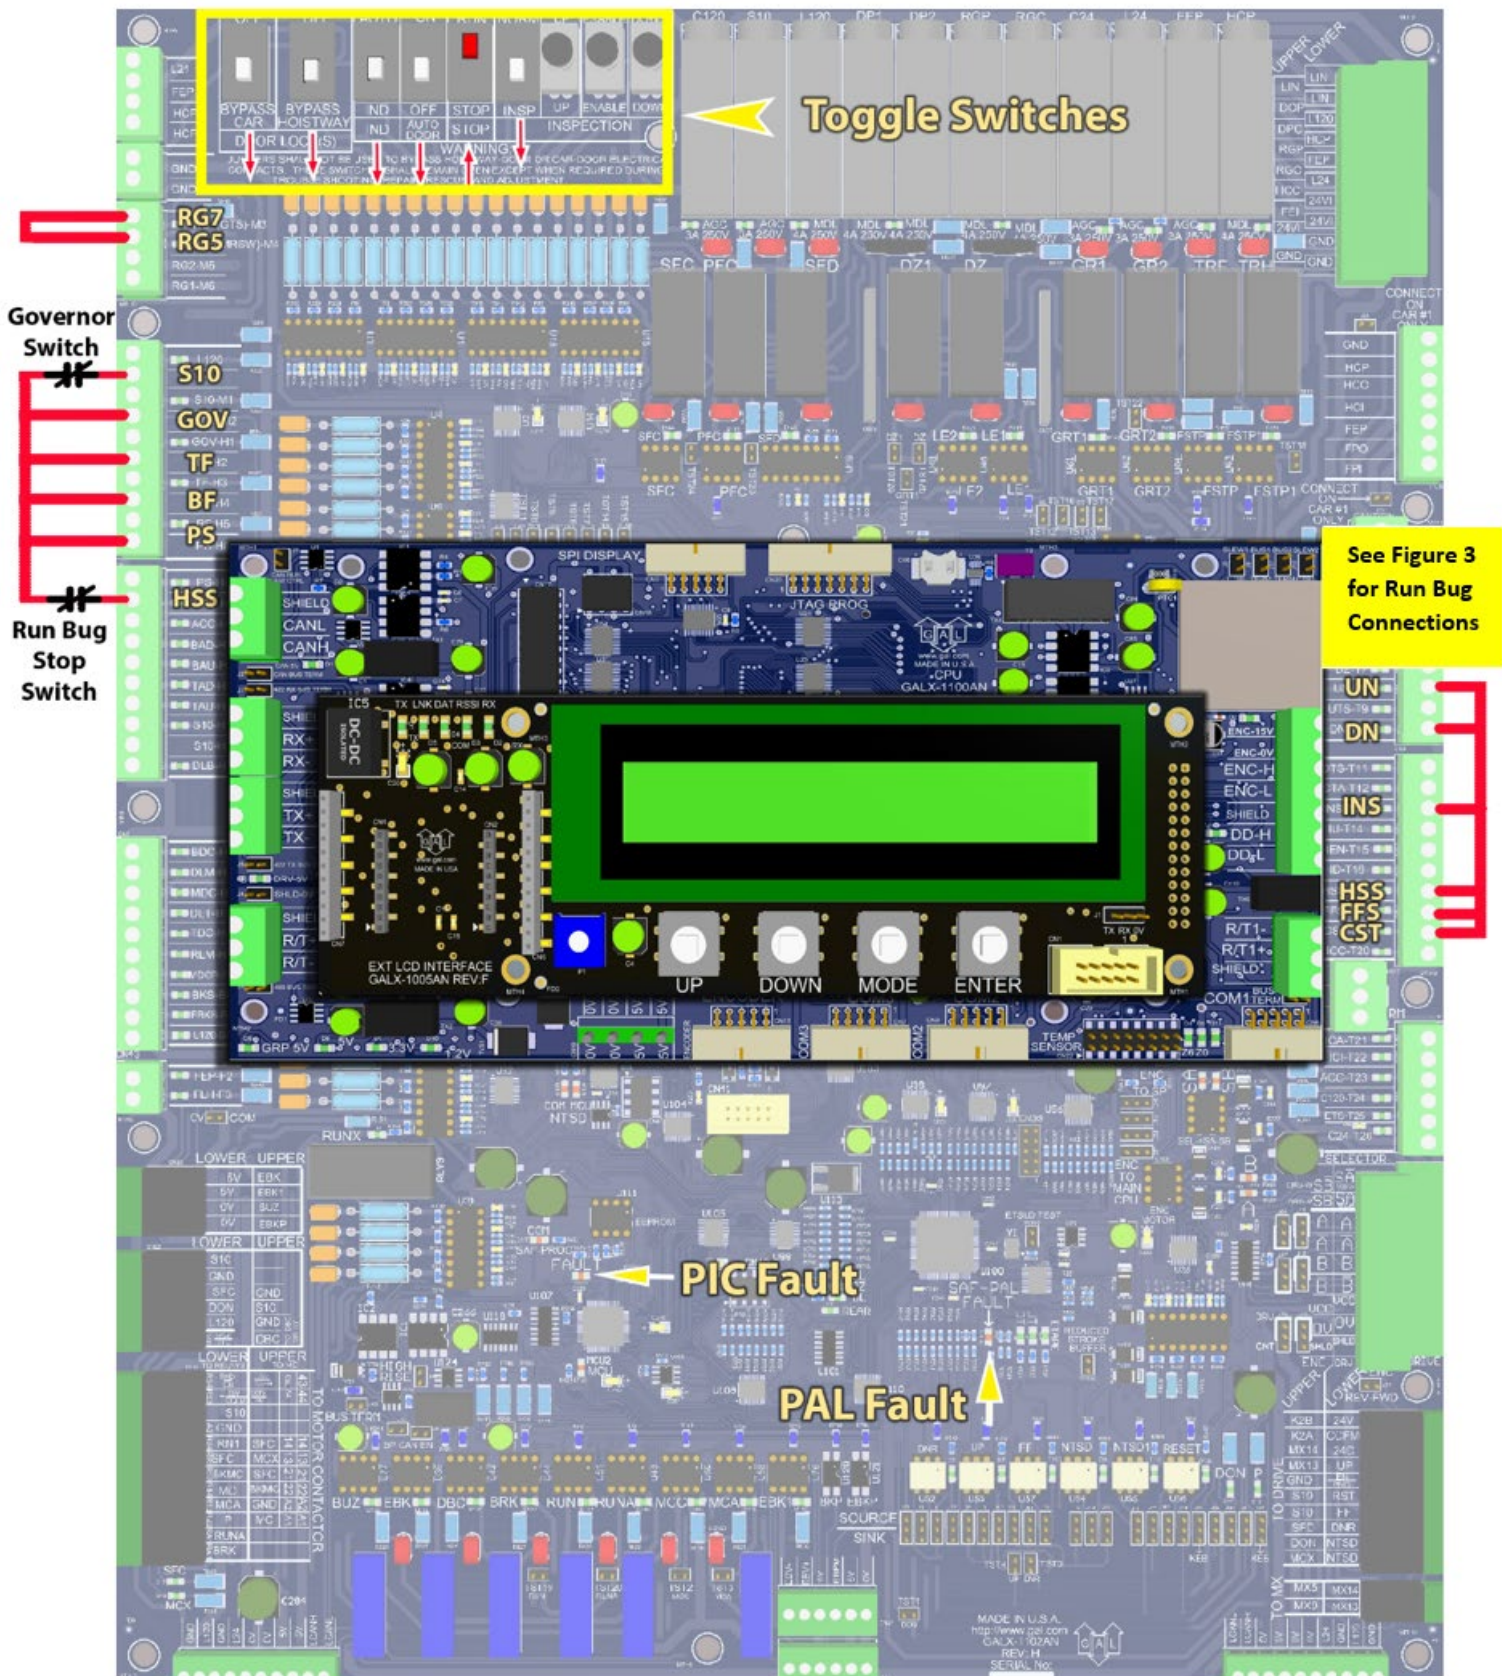

Figure 4: GALX-1102AN Main I/O Board
- 1.5 Set the toggles switches on the GALX-1102 Main I/O Board as show in Figure 4.
- 1.8 Verify the PIC and PAL fault LED’s are off. See the GALX-1102AN Main I/O Board in Figure 4. If these LED’s are on, refer to the GALaxy IV adjustment manual for possible causes of these faults.